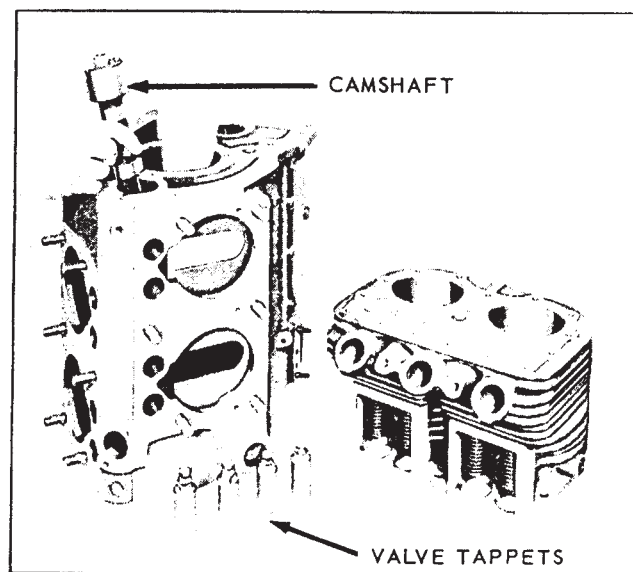

Figure 10-16. Camshaft Removal
a. Remove all valve tappets and withdraw camshaft from crankcase (figure 10-16).